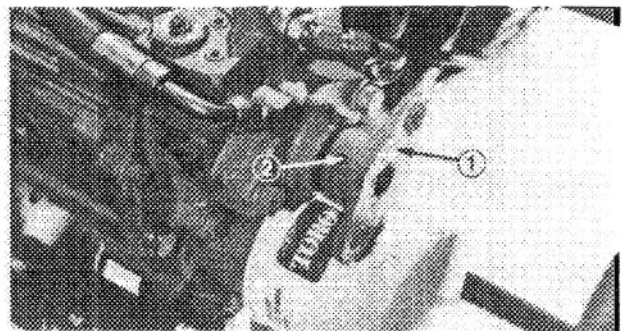

Figure 72
4. Loosen two set screws retaining hub on pump shaft (Fig. 72). Slide hub off shaft.
6. Set drain pan below front of transmission. Remove two capscrews and flatwashers securing charge pump housing to center section (Fig. 72). Using a seal protector, slide charge pump housing and rotor assembly off pump shaft. O-ring will probably stay in groove on inside of charge pump housing.